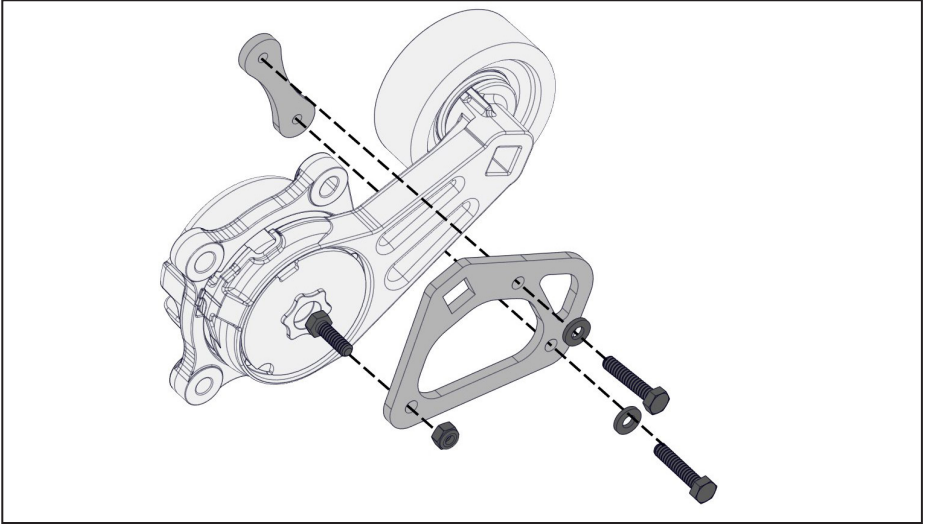

Figure 9 — Install tensioner plate
- ☐ Install the tensioner plate on the OEM tensioner (Figure 9).